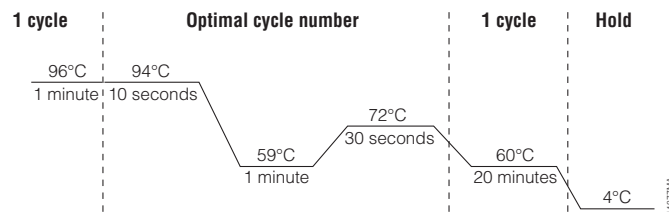

Figure 39. Thermal cycling protocol for the GeneAmp® PCR System 9700 and ProFlex® PCR System.
2. Select and run the recommended protocol, which is provided below and in Figure 39.